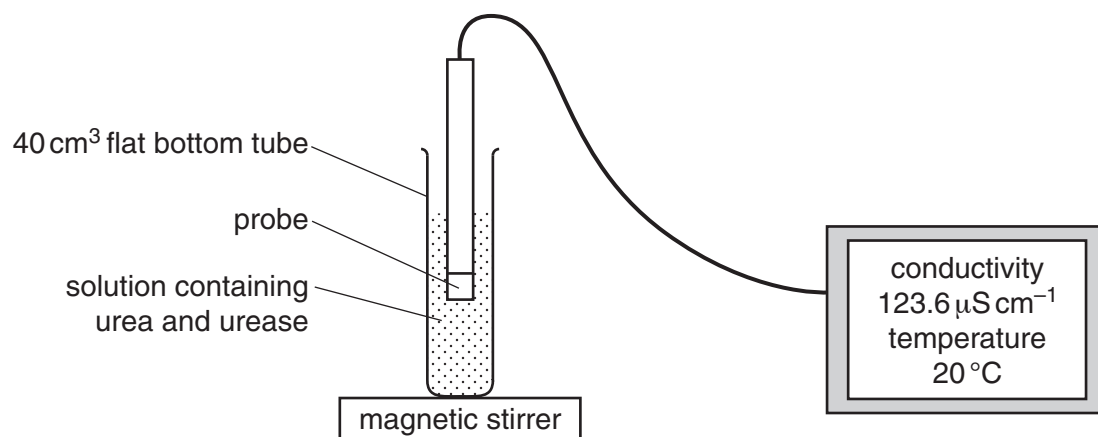

Fig. 1.2
Fig. 1.2 shows the experimental set-up during the course of a reaction.
- (iii) Describe a method the student could use to find the K_m value of urease at different temperatures. The solutions were made as described in (a)(i) and (a)(ii) and the apparatus shown in Fig. 1.2 was used.